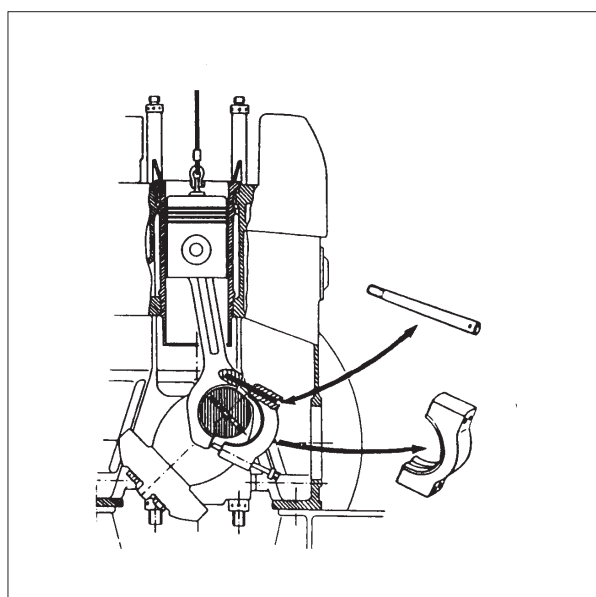

Fig 2. Removal of bearing cap.
9) Remove the screwdriver from the guide pin, and dismount the bearing cap by sliding it along the guide pin, *see fig 2*.